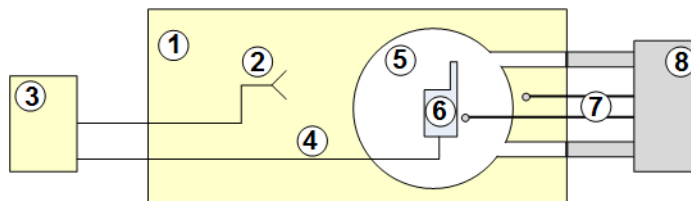

Figure 3-1: Test setup
3. Conduct two temperature sensors (labeled (7) in Figure 3-1) through the rectangular opening in the plate with hose adaptors.